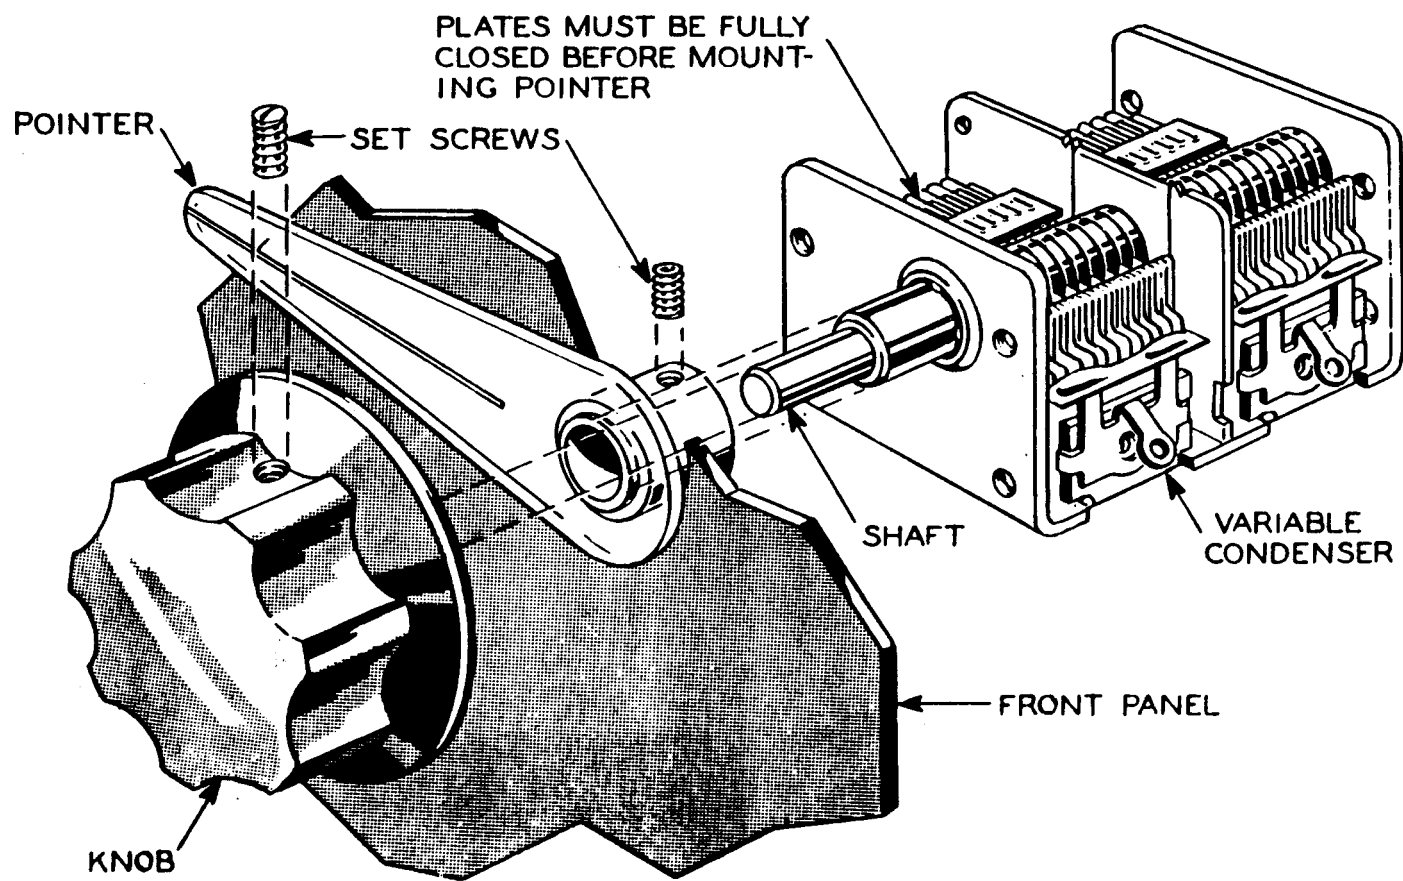

FIGURE 18. HOW TO ASSEMBLE THE DIAL POINTER AND KNOB
- ( ) Close the plates of the tuning condenser, C-3, entirely. Place the dial pointer on the shaft of the tuning condenser. Line up the black line on the pointer with the horizontal line along the bottom of the scales on the left side. Tighten the set screw against the shaft of C-3. Push the large knob on the shaft and tighten the set screw. See Figure 18.